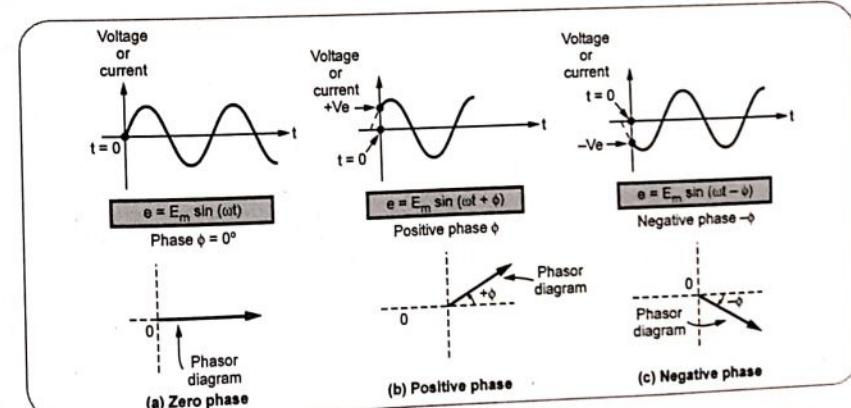

Fig. 2.11.2 Concept of phase
- When phase of an alternating quantity is zero, it is standard pure sinusoidal quantity having instantaneous value zero at  $t = 0$ . This is shown in the Fig. 2.11.2 (a).
- When phase of an alternating quantity is positive it means that quantity has some positive instantaneous value at  $t = 0$ . This is shown in the Fig. 2.11.2 (b).
- When phase of an alternating quantity is negative it means that quantity has some negative instantaneous value at  $t = 0$ . This is shown in the Fig. 2.11.2 (c).